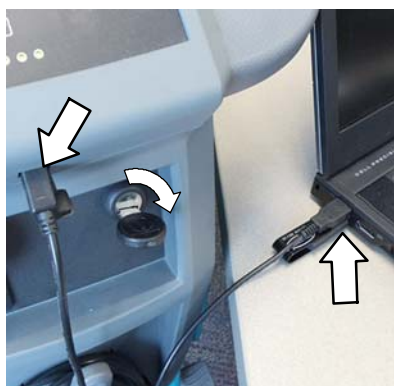

Fig. 6
4. Connect the USB cable, supplied with kit, to computer and to the USB port on machine as shown. Turn the key switch to the on position (Figure 6).
5. The application software will then connect to the machine (Figure 6). If the application remains on the “Connecting to Machine...” screen for an extended period, cycle key or reconnect USB cord. If it still fails to connect, restart software or computer.